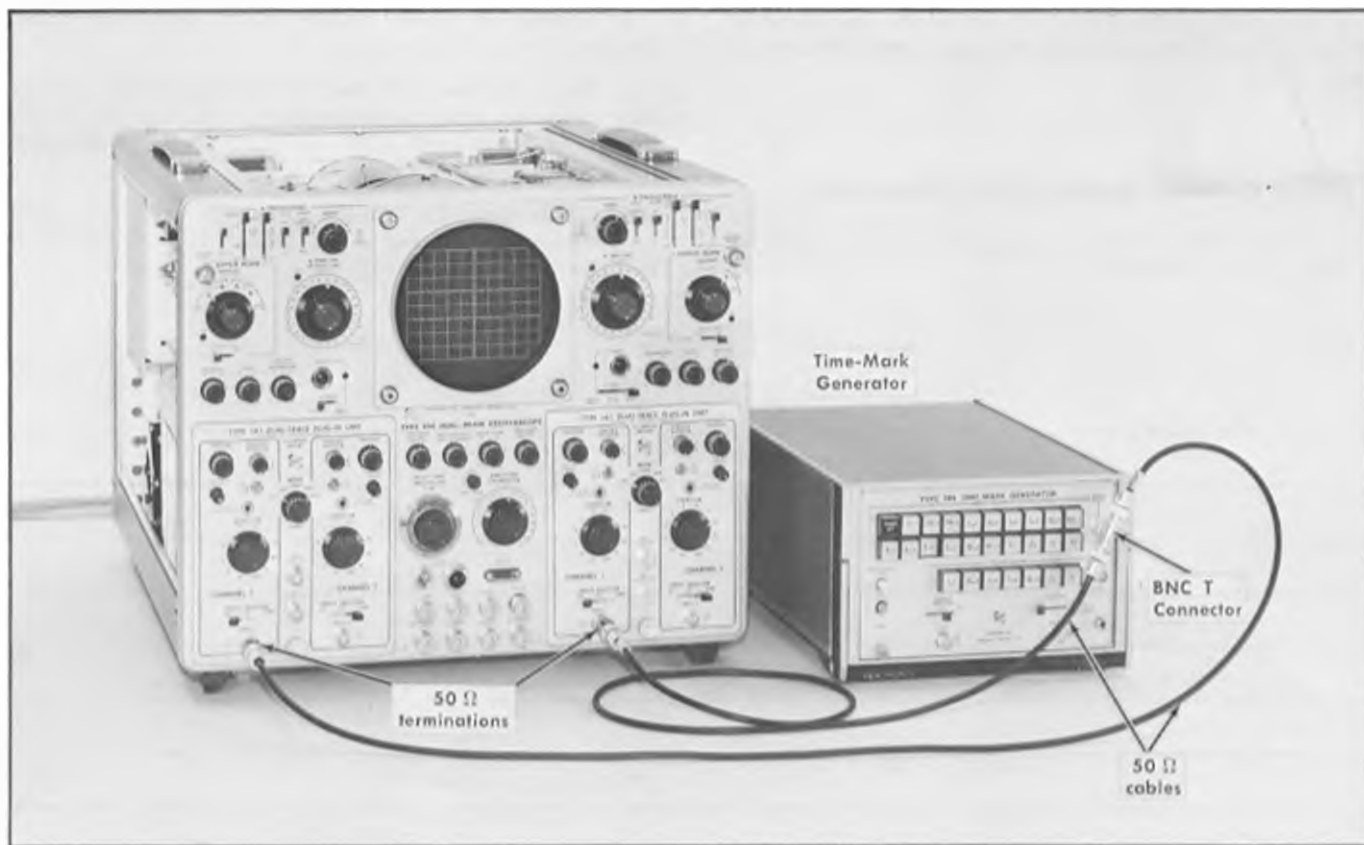

Fig. 6-17. Test setup for Geometry adjustment.
a. Remove both Test Load units, and in their place install Type 1A1 plug-in units. The test equipment setup is shown in Fig. 6-17.
b. Apply 1-millisecond markers from the time-mark generator [item 4 of Recommended Equipment] through a BNC T connector, two 50  $\Omega$  cables and 50  $\Omega$  terminations to the Type 1A1 vertical inputs of both plug-ins.